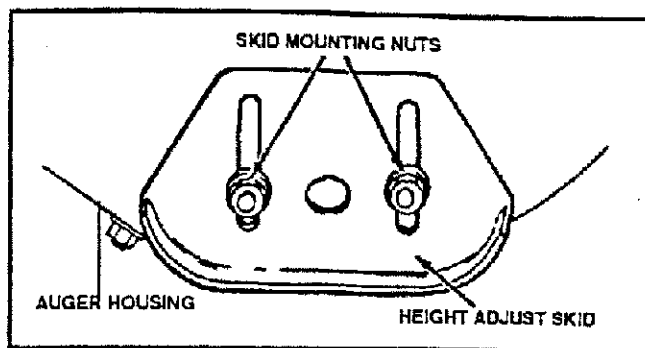

FIG. 1-SERV & ADJ
This snow thrower is equipped with two height adjustment skids, located on the outside of the auger housing (See FIG. 1-SERV & ADJ). These skids elevate the front of the snow thrower.
- Loosen the skid mounting nuts (See FIG. 1-SERV & ADJ), and adjust the skids up to bring the front of the snow thrower down. Re-tighten the mounting nuts.